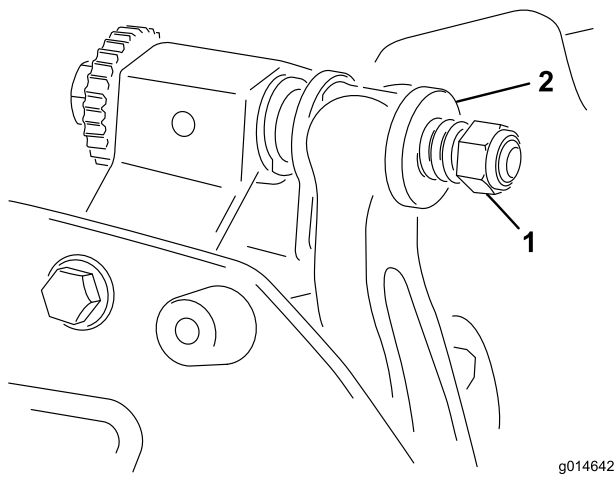

Figure 19
4. Tighten the spring tension nut until the spring is collapsed, then back it off 1/2 turn (Figure 19).